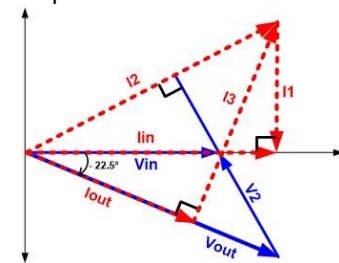

Figure 8: π-Network Phasor Diagram
Using (5) and that I1 is perpendicular to Vin, **Figure 8** illustrates the I1 phasor.
Using **Figure 8**, each reactive element type can be determined. X3 is a capacitor because I3 is leading Vout. But, X2 is an inductor because V2 is leading I2. Similarly, X1 is an inductor because V1 is leading I1.